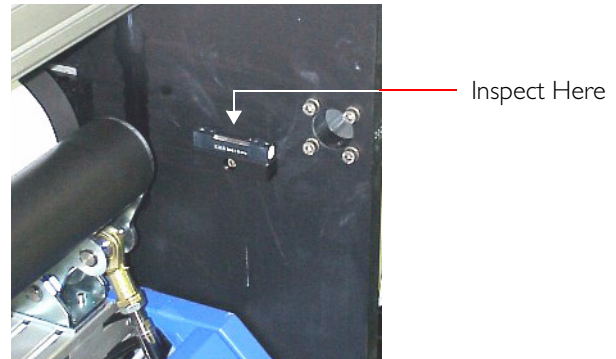

Figure 21. Spirit Level on Right Side
3. Repeat Step 1 & Step 2 to inspect the spirit level on the *right* side of the printer main frame - see Figure 21.